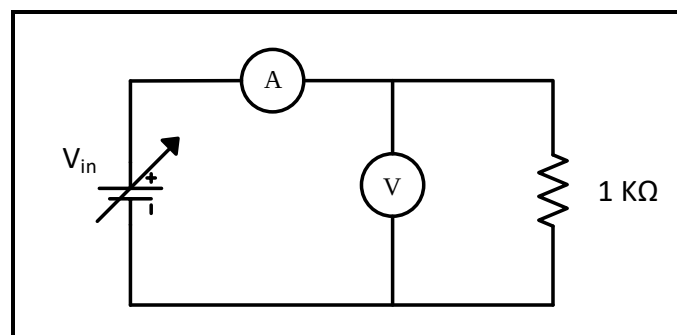

Figure 10.4
1. Connect the circuit of Figure 10.4